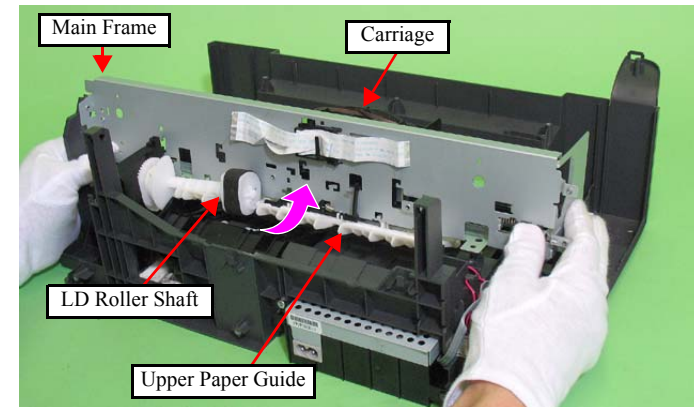

Figure 4-75. Removing the Main Frame (5)
7. Remove the Main Frame, the Carriage, and the Upper Paper Guide from the Lower Housing following the procedure below. (See Fig.4-74, Fig.4-75.)